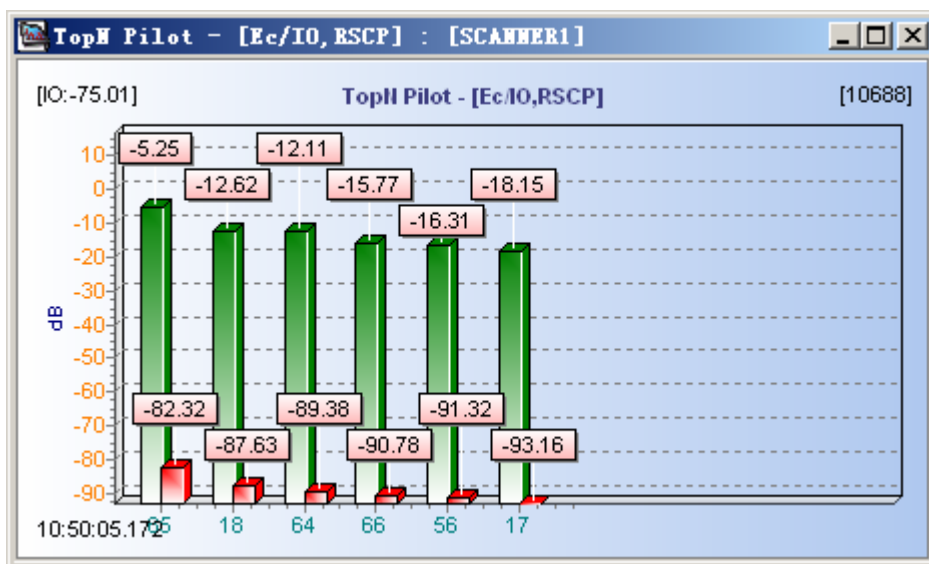

Figure 5-64 TopN Pilot window
If you set **Enable** to **True** in the TopN pilot scan of the DTI Scanner test plan and set the frequency to be scanned, the **TopN Pilot** window displays the TopN scrambling codes and their Ec/Io and RSCP, as shown in Figure 5-64.
- In Figure 5-64, the X-axis represents the scrambling codes.